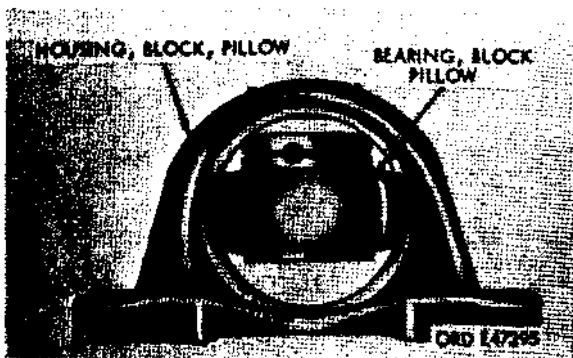

Figure 507. Positioning pillow block bearing for removal
- (2) Rotate pillow block bearing in pillow block housing one-half turn. Turn bearing to a horizontal position as shown in figure 507 and remove from housing.